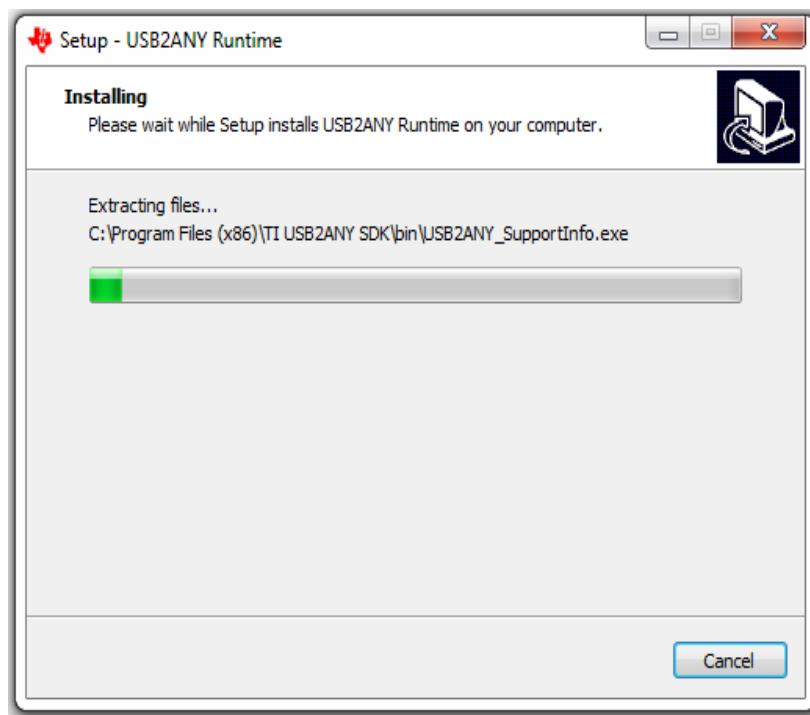

Figure 1-13 Installation in Progress
12. The installer will begin self-extraction and proceed with the installation as shown in Fig.1-13